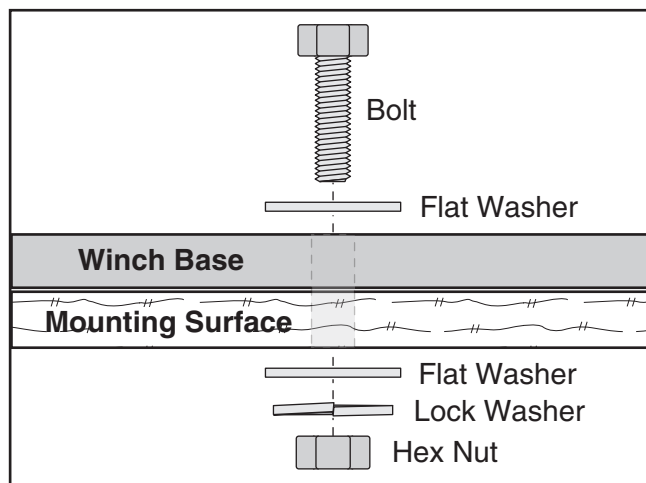

Figure 2. Example of a through mount setup.
3. Use $\frac{3}{8}$ " diameter mounting hardware to secure the winch in place, as shown in **Figure 2**.